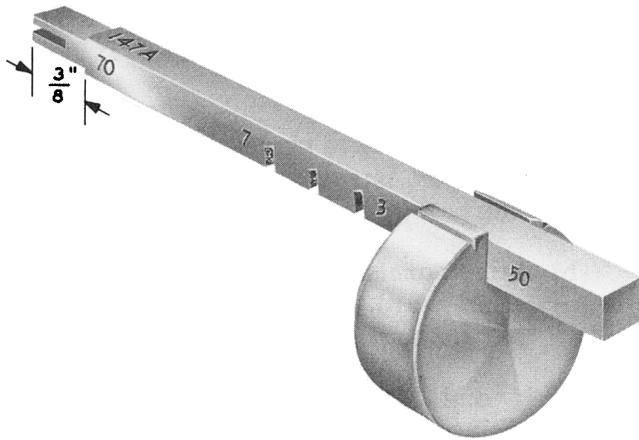

Fig. 6 - 147A Gauge
4.06 Trap, vane, and relay should restore fully to their unoperated positions against a torque of 70 gram-inches applied to relay operating arm with a 147A gauge (see Fig. 6 and 7). Test as follows: